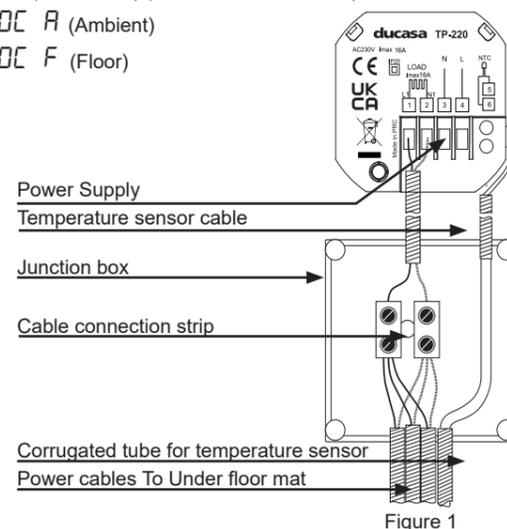

Figure 1
Step 3: Connect the wires to the back of the thermostat (See Figure 1).
Figure 1 shows the electrical connection at the thermostat, at the junction box or connections at 30 cm above the floor and the necessary connections.